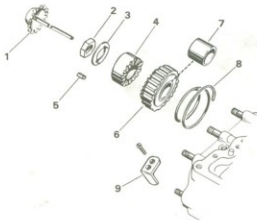

Figure 7-35. Starter Clutch — Exploded View
Disassembly (Figure 7-35)
2. Remove the push rod assembly (1).
3. See Figure 7-35. Lock the transmission into two gears at once. Bend the lockwasher (3) tab away from the nut (2). Remove the nut and lockwasher.
- See Figure 7-35. Remove the starter clutch key (5), gear (6) and spring (8).
- Replace the gear bushing (7) if it is pitted, worn or if gear has excessive free play side-to-side. Bushing should be just loose enough on mainshaft so the gear slides under force of the spring.